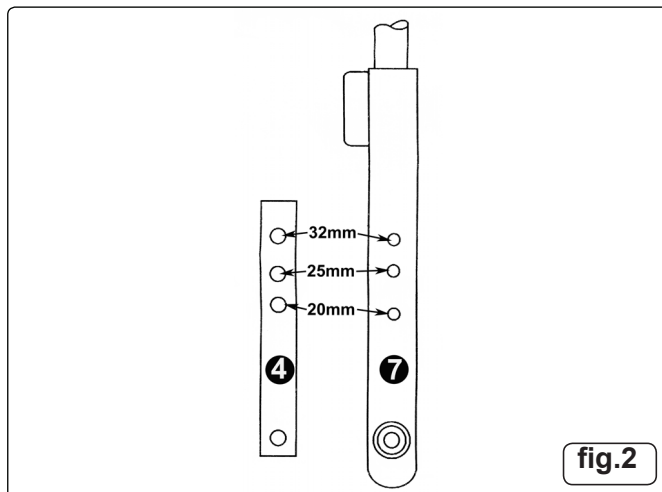

fig.2
- 4.4. Remove the bending lever retaining pin (2). Fit the former (9) and roller pin (8) in the appropriate position on the bending lever (7) (fig.2). Secure the roller pin (8) in place with the R-clip.
- 4.5. Select the size of former (9) required (fig.2) according to the diameter of conduit to be bent. Withdraw the centre pin (3), insert the former (9) and replace the centre pin (3).